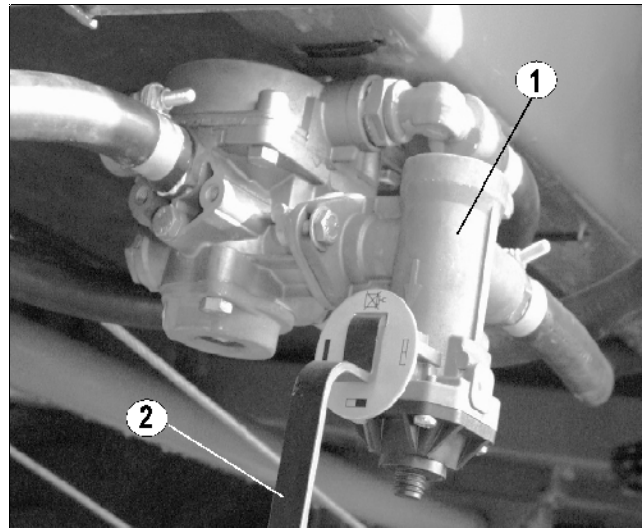

Fig. 13
- Before moving off the brake pressure regulator (Fig. 13/1) on the hand lever (Fig. 13/2) has to be adjusted manually according to the load of the implement.